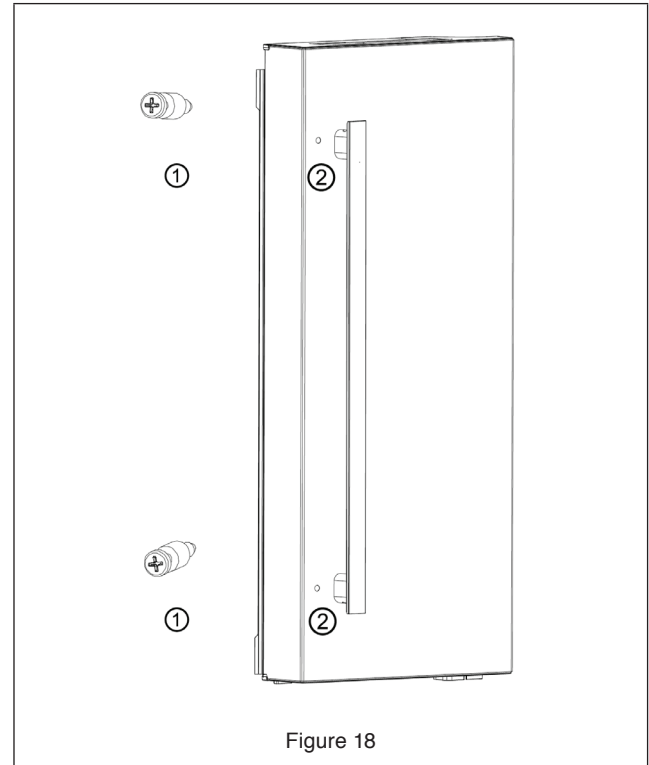

Figure 18
1. Take out bolt ① from accessory bag, then use Phillips screwdriver to secure the bolt ① into the bolt hole ② of refrigerator doors. See Figure 18.
2. Attach the handle of the door through the bolt hole ① and make sure that the handle makes contact to the door surface closely. See Figure 18.
3. Attach the handle by rotating the handle screw ③ clockwise until it stops to the end, gently shake the handle to ensure it has been attached securely.
4. Put the screw hole cap ④ on the handle screw hole to complete this installation.